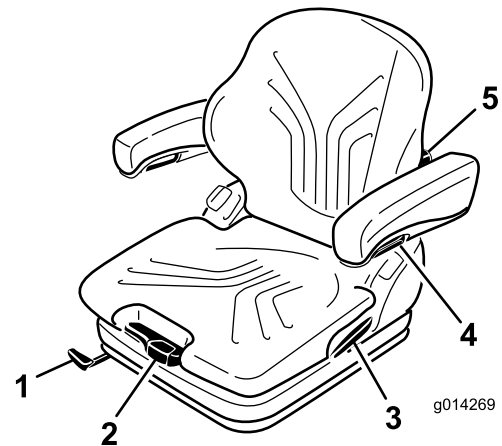

Figure 18
The seat is adjusted for the driver's weight by pulling or pressing the weight adjustment lever (Figure 18).
1. To adjust, lift the lever to unlock the seat (Figure 18).
By turning the adjustment knob upwards, the curvature in the upper part of the backrest cushion can be adjusted. By turning the knob downwards, the curvature in the lower part of the backrest cushion can be adjusted (Figure 18).
To adjust the armrests for height, separate the round cap (Figure 18) from the cover, loosen the hexagon nut (13 mm) behind it and adjust the armrests to the desired position and tighten the nut. Replace the cap onto the nut.
To adjust the angle of the armrests, turn the adjustment knob (Figure 18).
Pull up the locking lever to release the backrest catch (Figure 18). When releasing the backrest catch, do not apply load to the backrest by pressing against it.